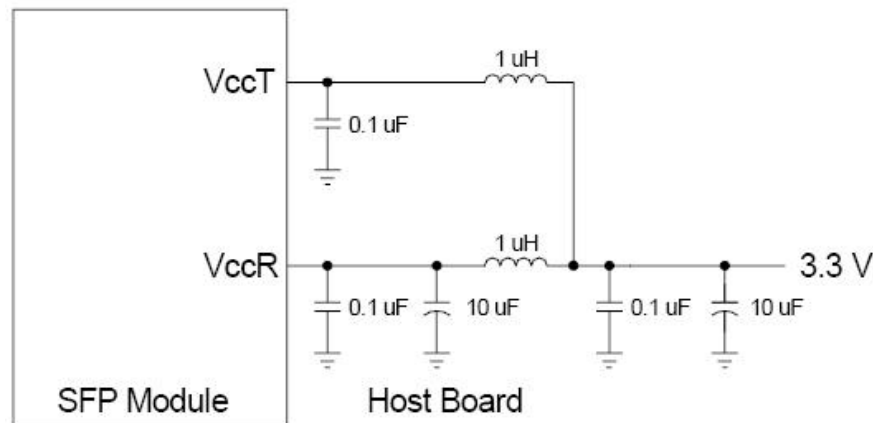

Figure 3. Typical power supply application schematics
7. This pin should be connected to a filtered +3.3V power supply on the host board. See Figure 3. Recommended power supply filter
The MSA power supply noise rejection filter is required on the host PCB to meet data sheet performance. The MSA filter incorporates an inductor which should be rated 400mADC and 1Ω serial resistance or better. It should not be replaced with a ferrite. The required filter is illustrated in Figure 3. The MSA also specifies that 4.7K to 10KΩ pull-up resistors for TX_FAULT, LOS, and MOD_DEF0,1,2 are required on the host PCB. Figure is the suggested transceiver/host interface.